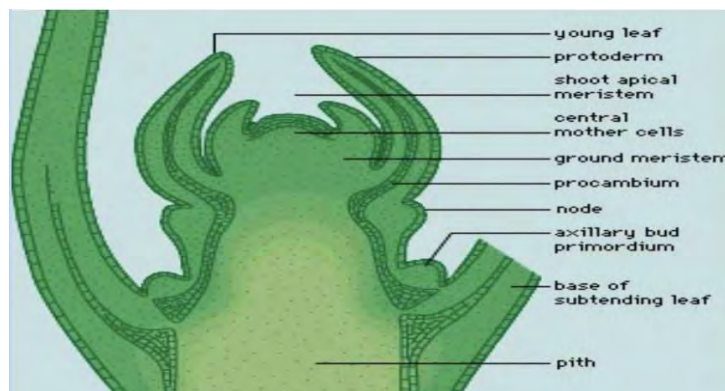

Figure 1. Meristem
- i. Note: You will focus on removing the **leaf primordia** and leaving the **apical meristem**. (See Figure 1).